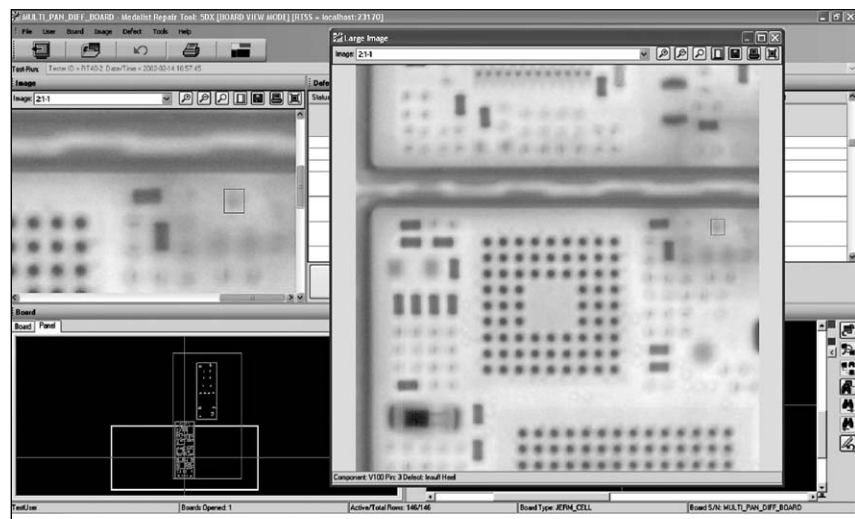

Figure 8: Larger image view enabled
4. Pressing the **F3** key for each defect from now on will call out a window that displays an expanded view of the defect image. See Figure 8: